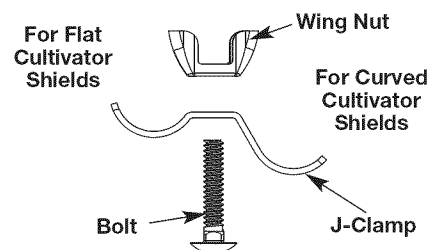

Fig. 1
1. Place the carriage bolt through the J-clamp center hole and push the assembled J-clamp through the de-thatching shield slot so that the end of the square bolt is protruding up from the top of the de-thatching shield. Screw the wing nut onto the carriage bolt making sure to leave the J-clamp assembly loose and free to move along the slot. (Fig. 1 & 2)
**NOTE:** Depending on which type of mini tiller shield the unit has will determine which part of the J-clamp will be used. (Fig. 1)